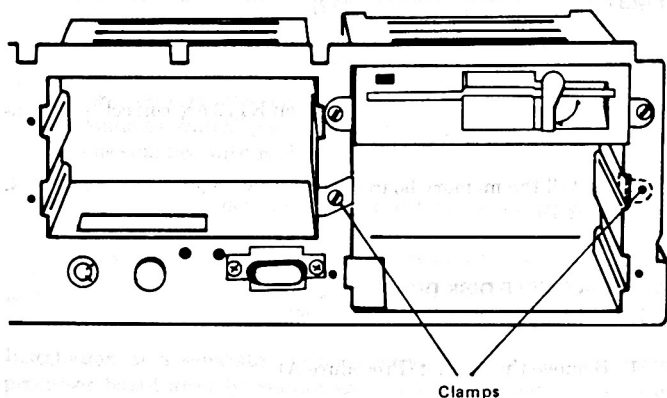

Figure 2 K701-1
5. Unscrew the two retaining clamps at the front of the main unit adjacent to the area where the disk drive is to be installed. Figure 2 K701-1 shows these clamps for the installation of a second flexible disk drive. Note which way you removed the clamps: some are brackets with flanges of unequal length.
7. Screw the retaining clamps into place (Figure 2 K701-1).